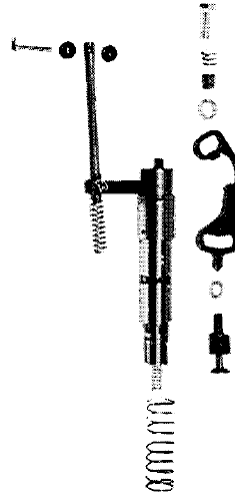

Figure 5-10. Time Delay Mechanism and Speed Setting Pilot Valve Assembly
7. Lift out speed setting plunger, bushing, floating lever, and load spring (Figure 5-10).